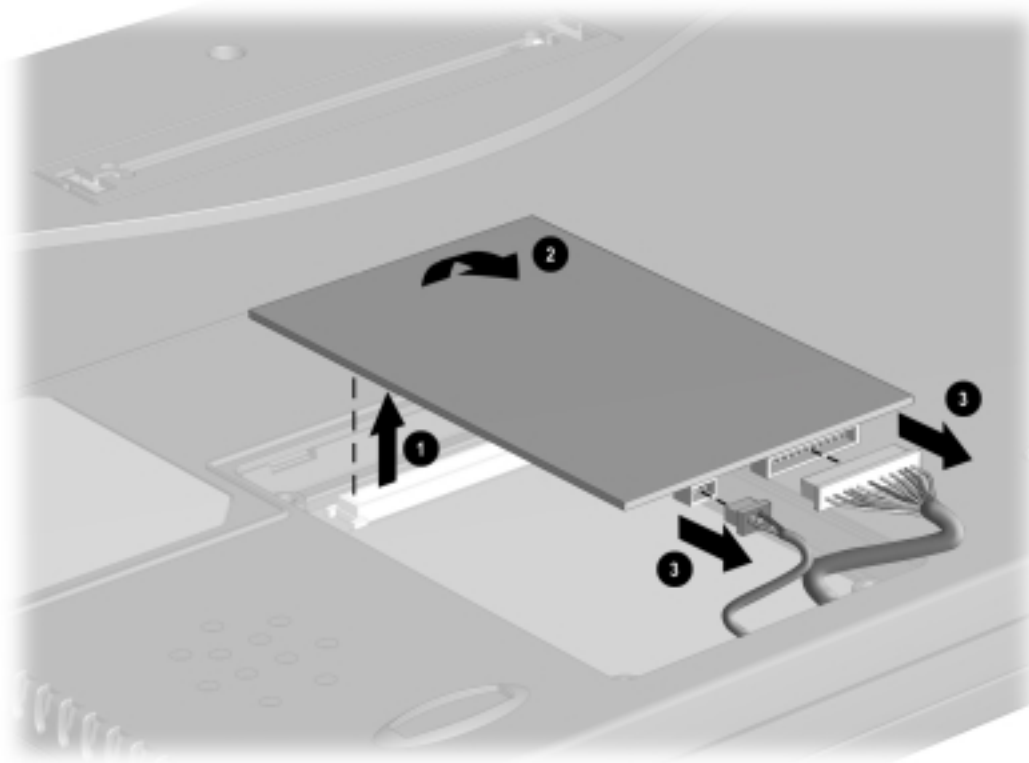

Figure 5-12. Removing the Modem or Modem/NIC Card
7. Lift up on the back of the modem or modem/NIC card ❶, and swing it forward to disconnect it from the system board ❷ (Figure 5-12).
8. Use the connector removal tool to disconnect all cables connected to the card ❸.